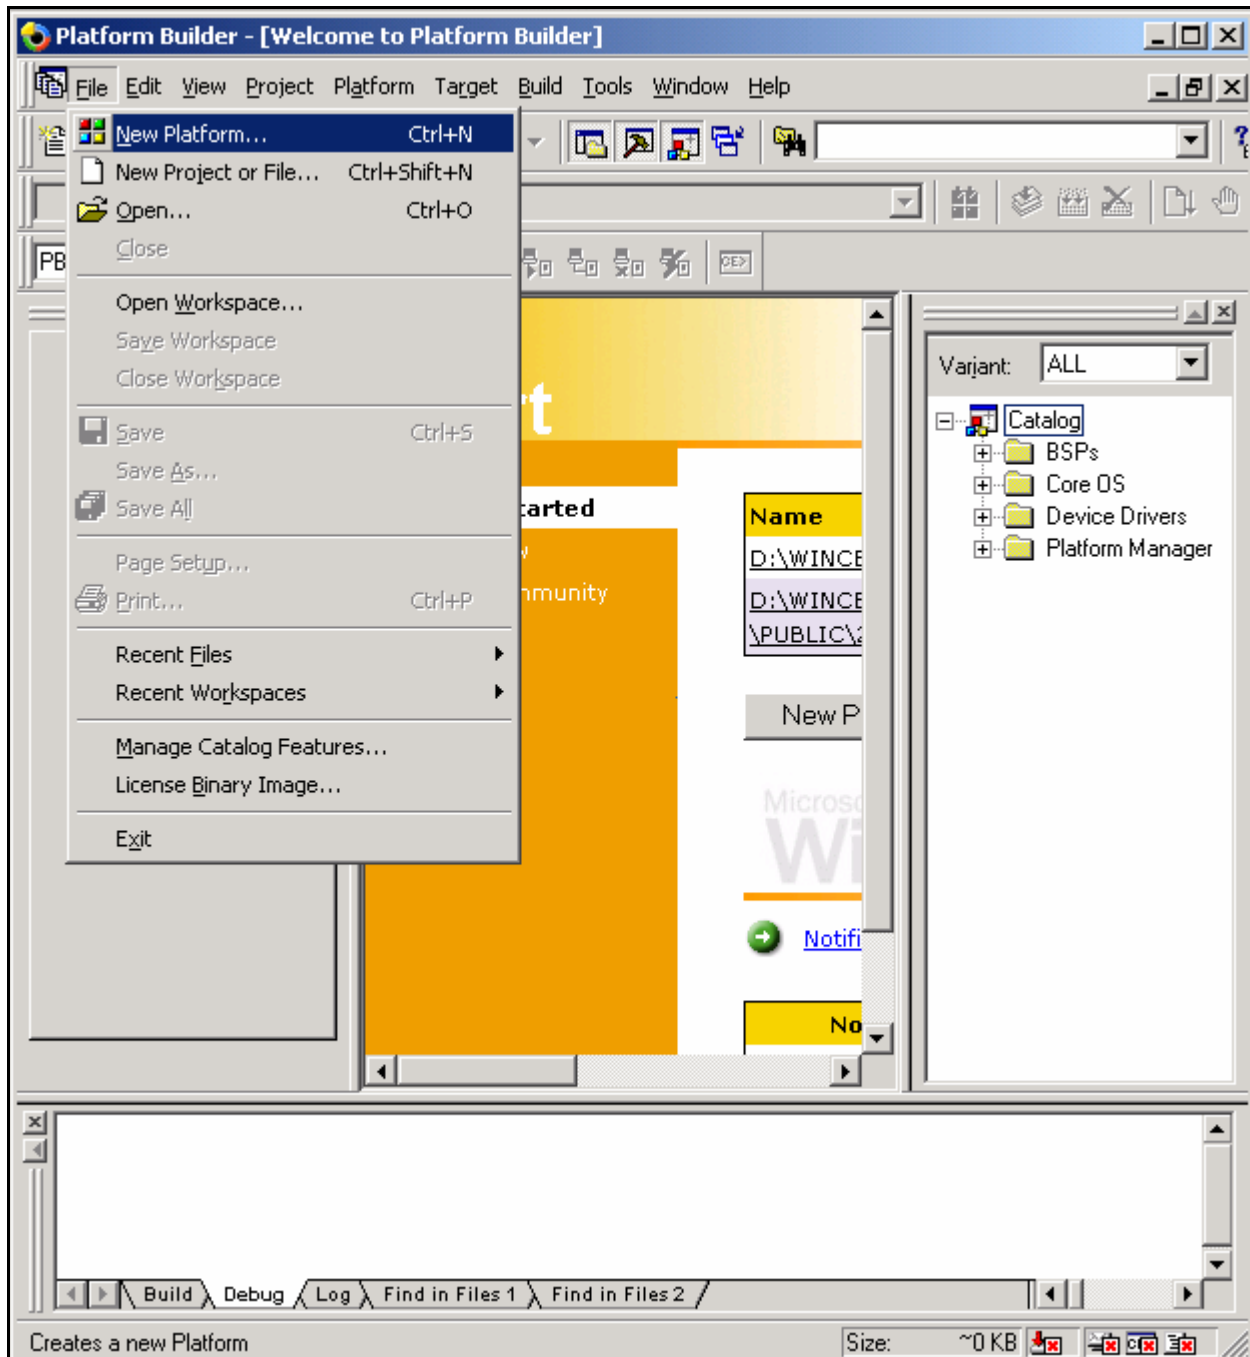

Figure 2-1 Creating New Platform
1. In the Platform Builder window on your host PC, please select 'New Platform...' from the 'File' menu as shown below in the figure 2-1.